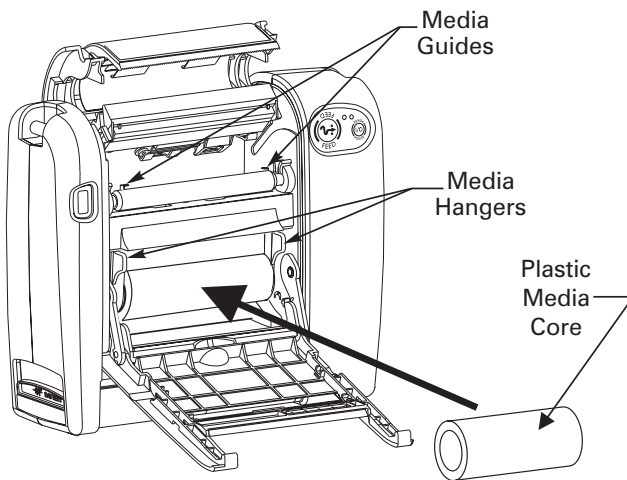

Figure 11
5. Separate and hold open the media hangers (refer to Figure 11).
6. Place the plastic media core (refer to Figure 11) onto the media hangers.